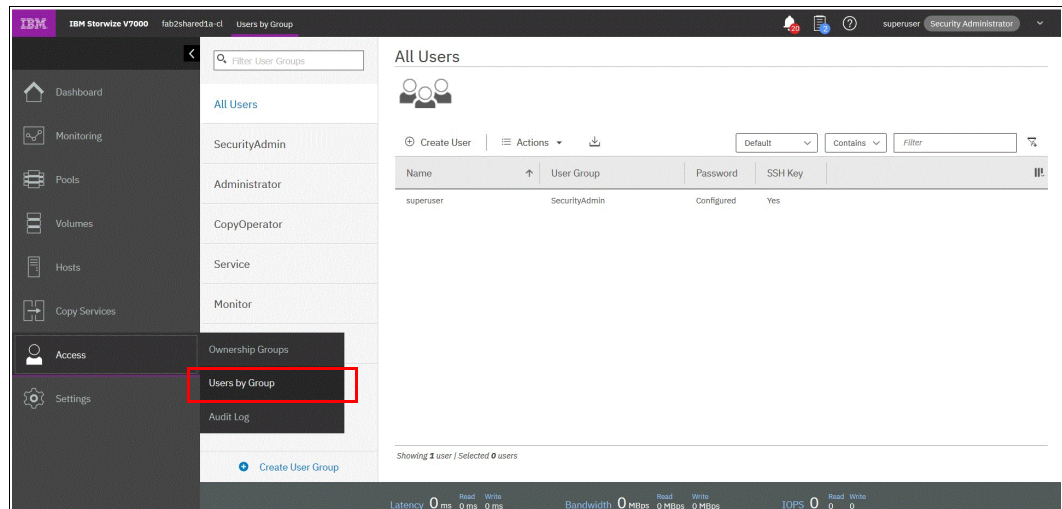

Figure B-4 Opening the user section
1. Open the user section in the GUI, as shown in Figure B-4.